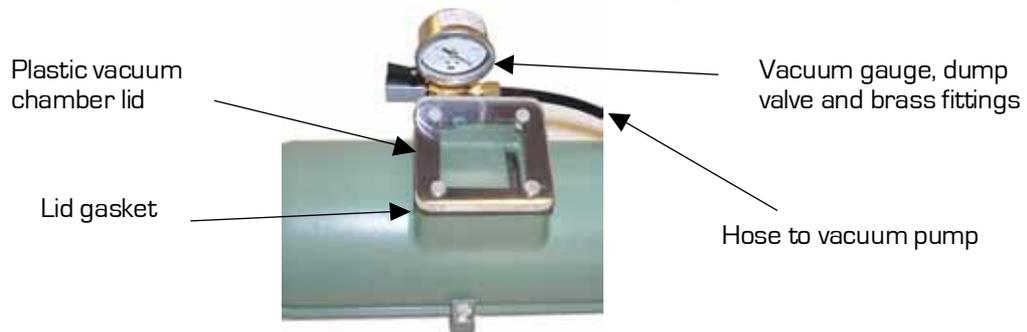

Figure 5: Vacuum chamber fittings
- c) Fit **one** of the black vacuum chamber gaskets onto the posts of the clear plastic vacuum chamber. Place the cover onto the vacuum chamber, as seen in figure 5..